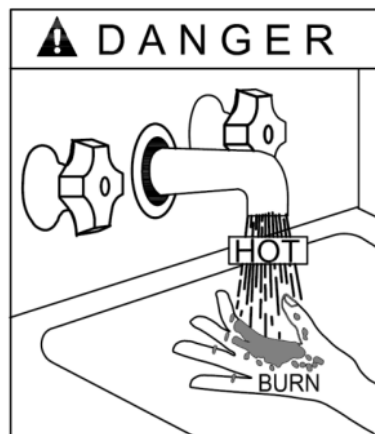

Figure31
- Water temperatures above 50°C can cause severe burns; such scalding may result in death – see Figure 31.